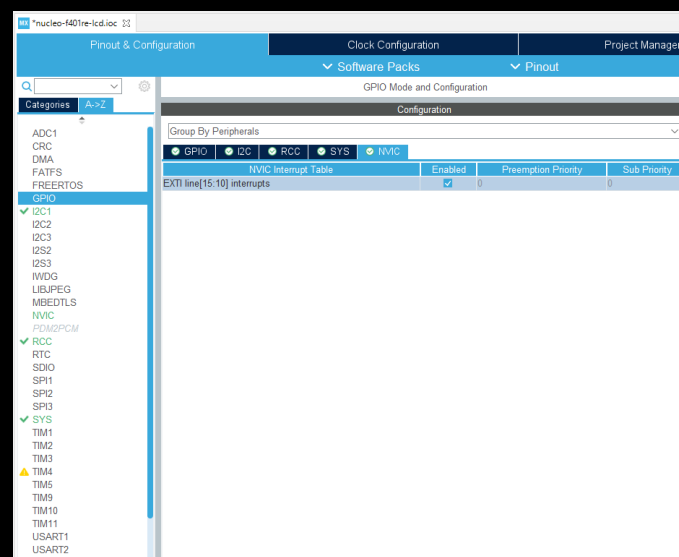

Figure 14: Enable External Interrupt
3. Enable the external interrupt. In the selection of GPIO, click on the NVIC tab, and enable the interrupt “EXTI line [15:10] interrupts” (Figure 14). Save your configuration and generate code.